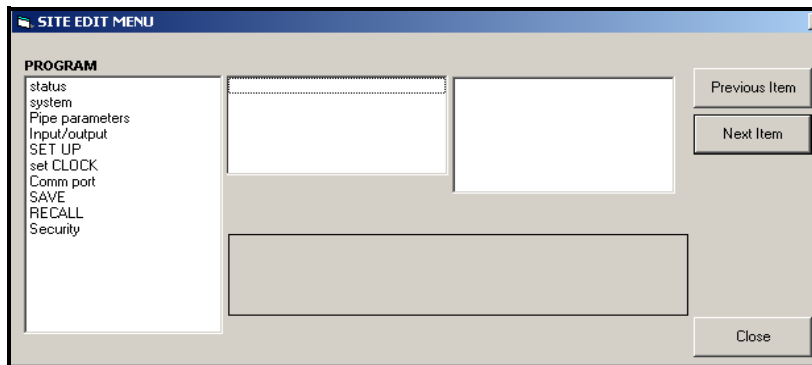

Figure 37: *Site Edit Menu* Window
- To open a particular menu, double-click on that menu on the tree. For example, if you double-click on the Site Edit Menu, a window opens similar to Figure 37 below.